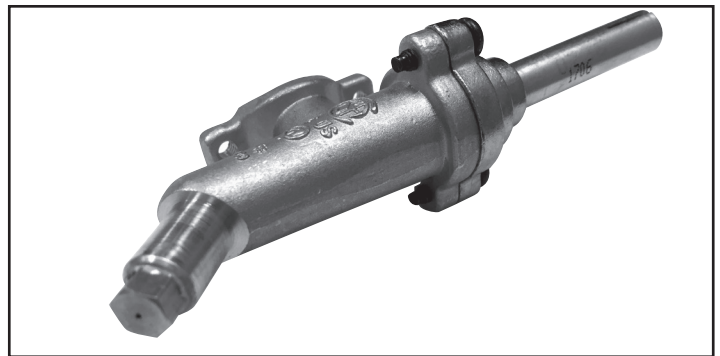

Figure 2
4. Use a 3/8" hex nut driver to remove the exposed orifice (Figure 2). Check orifice. If needed, replace it with the correct orifice for the new gas.